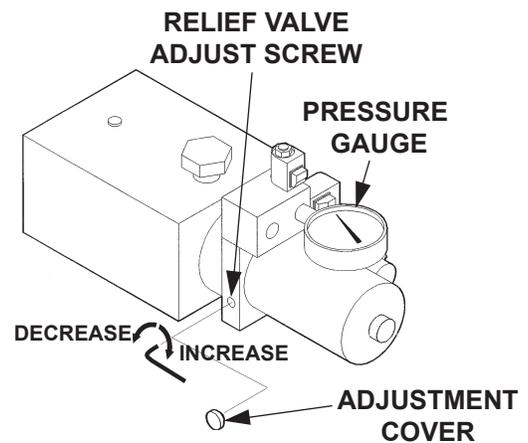

FIG. 51-2
3. With platform on the ground, remove the pressure hose and fitting from the pump and replace it with a 0-3000 PSI pressure gauge. Hold the switch in the "UP" position. Adjust the relief valve on the side of the pump until the gauge shows 2200 PSI (**FIG. 51-2**). Remove gauge and reinstall pressure hose.